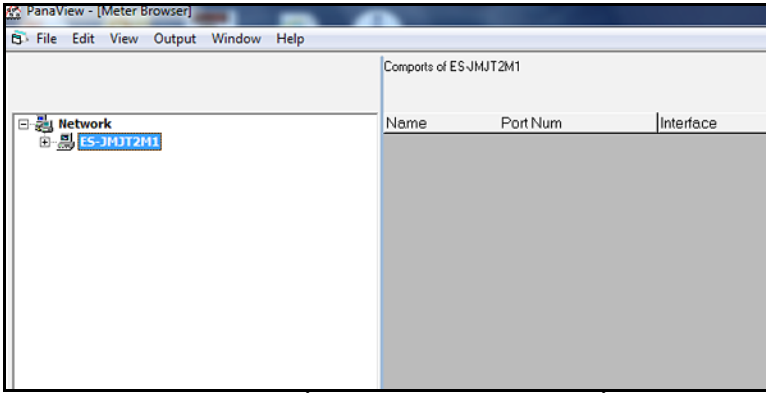

Figure 24: The My Computer Branch
1. Expand the *network* branch by clicking on the “+” sign to its left. Then, highlight the *My Computer (Name)* branch and the *Meter Browser* window will look like *Figure 24* below.
Note: *The right pane in Figure 24 above lists all of the communication ports, along with their configuration parameters, that are currently assigned to the named computer. If this is the initial meter setup, the list is empty.*